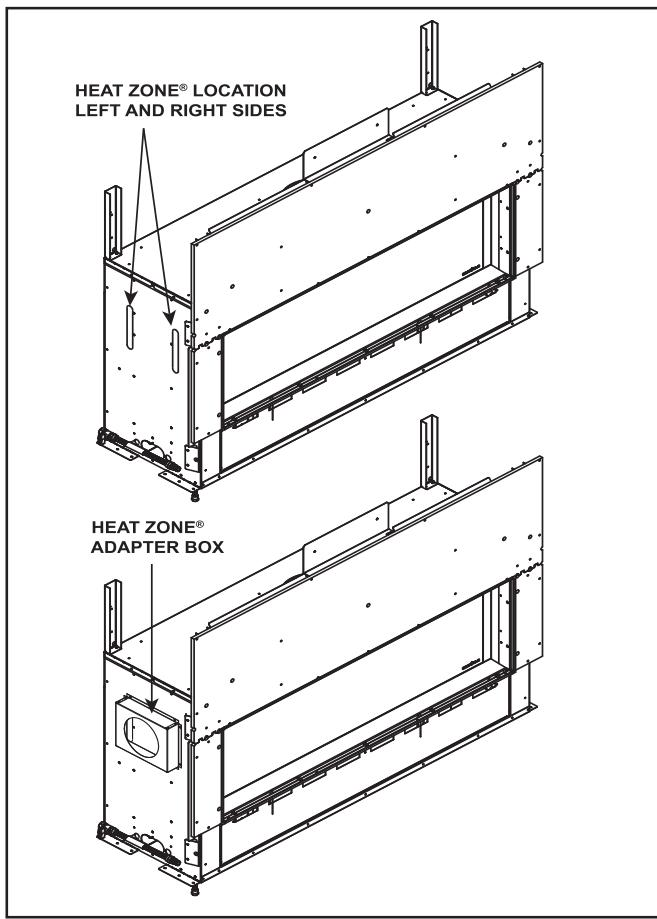

Figure 5.6 Adapter Box
2. Locate the Heat-Zone® ports on the left and right sides of the appliance. See Figure 5.6. Remove the knock outs from the appliance with a tin snips.
3. Place the Heat-Zone® adapter box into position prior to the final positioning of the fireplace as shown in Figure 5.6. Secure using eight self-tapping screws. Ensure the Heat-Zone® knockouts are completely covered by the adapter box.